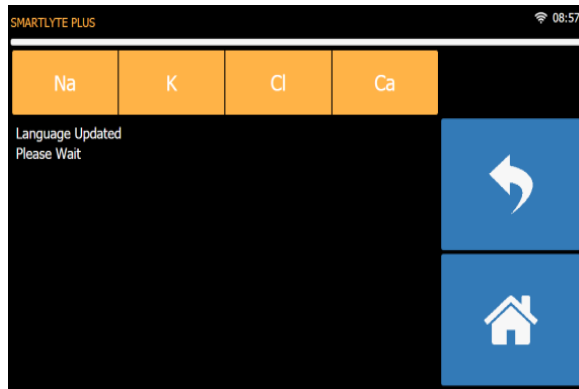

Figure 1-52 Confirmation language updated
- Fold the printer paper as shown below and feed the creased end into printer below the rollers. (Figure 1-52)